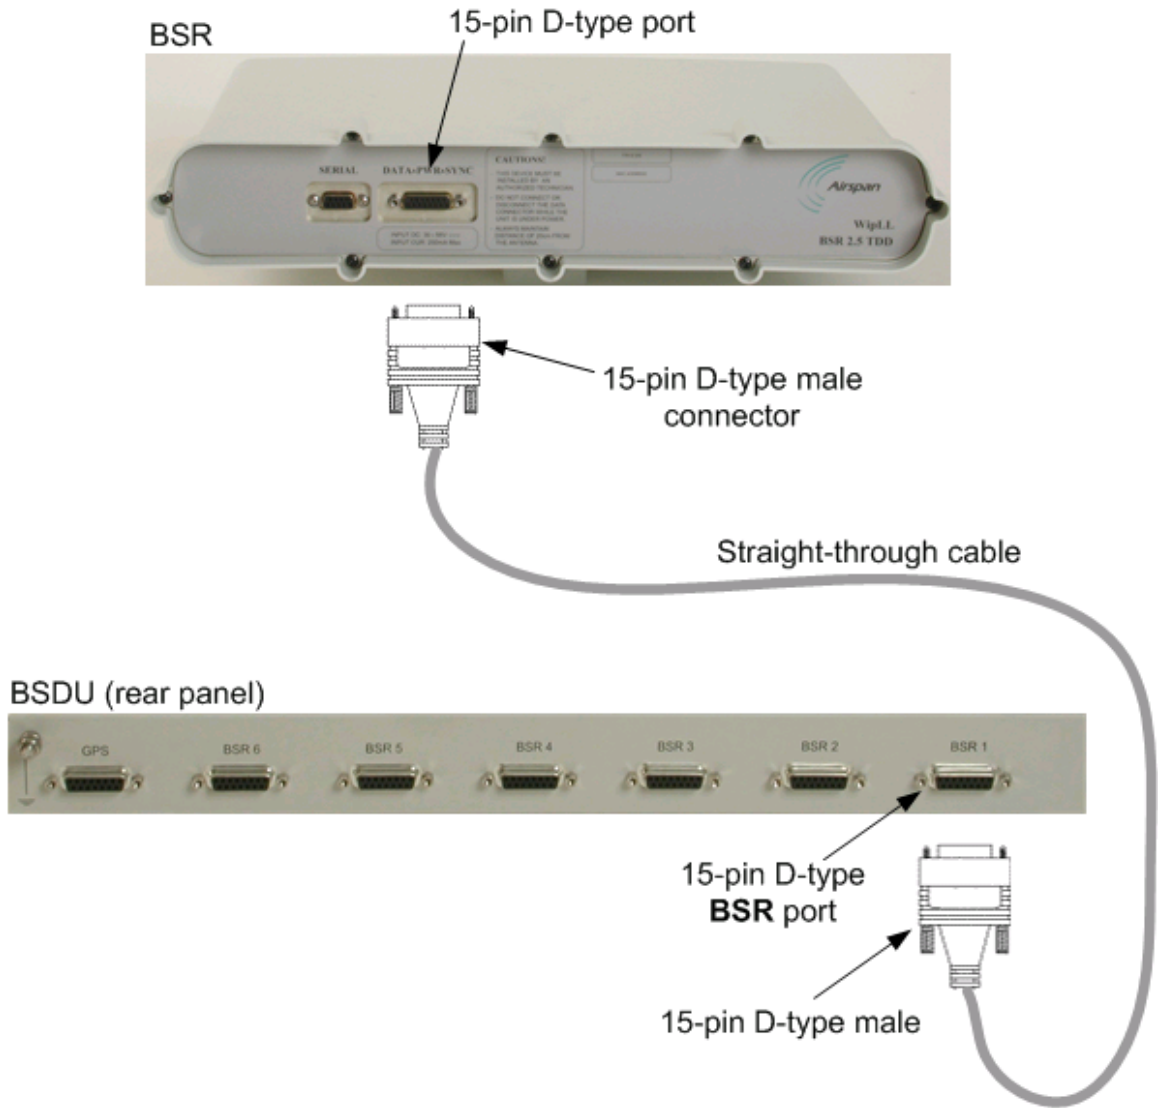

Figure 6-14: BSR-to-BSDU cable connection
**To connect the BSR to the backbone through a BSDU (Figure 6-14):**